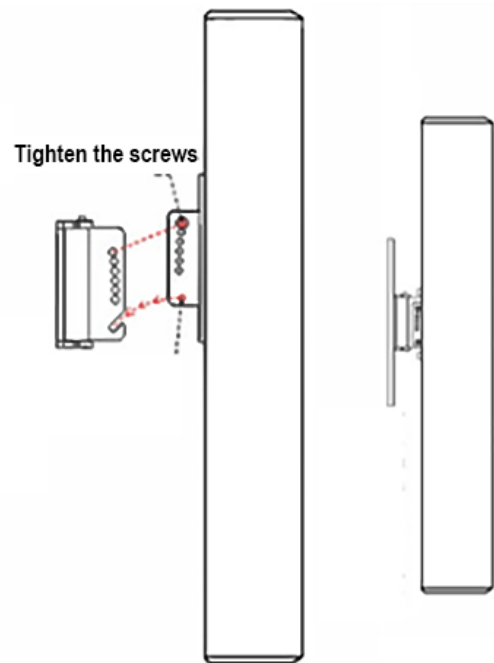

Figure 5
- c. Tighten the screws inserted in this step (Figure 5).